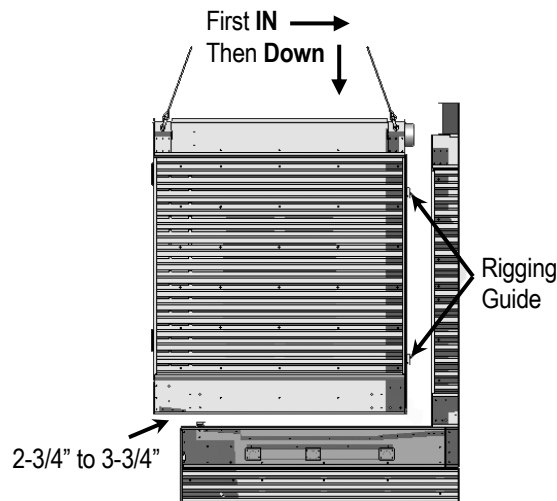

Figure 19. Coil Module Rigging
- To engage the rigging guides, the coil module must be positioned between 2-3/4" to 3-3/4" above the lower section as it is moved towards the plenum module. Once the coil module rigging guides have engaged the plenum module corner columns, lower the coil into final position as shown in **Figure 19**.